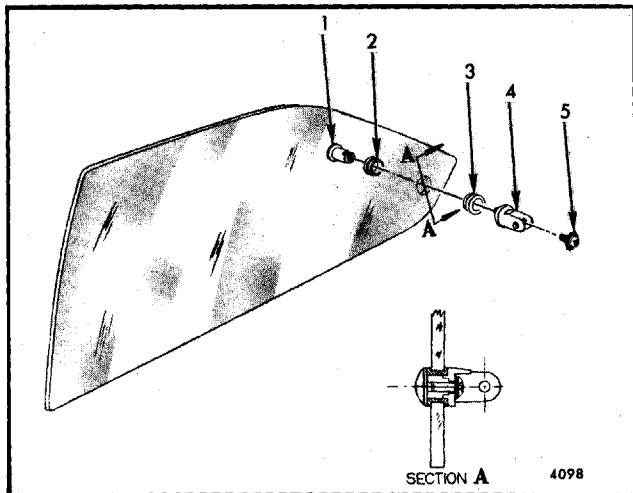

Fig. 6-39-Optional Swing-Out Quarter Window Latch Assembly Support
Manual Latch and Support - Removal and Installation - A-09,19 Styles (Refer to Fig. 6-39)
3. Remove support button attaching screw (5, Fig. 6-39).
3. Remove support button attaching screw (Fig. 6-39).